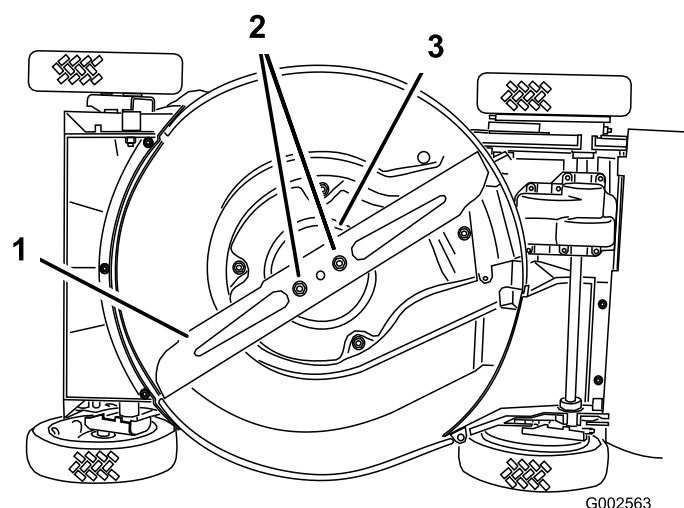

Figure 28
4. Tip the mower onto its **right** side (Figure 28).
Grasp the end of the blade using a rag or a thickly padded glove. Remove the blade nuts, the anti-scalp cup, and the blade (Figure 28).
5. Remove 2 blade nuts, the anti-scalp cup, and the blade (Figure 28).